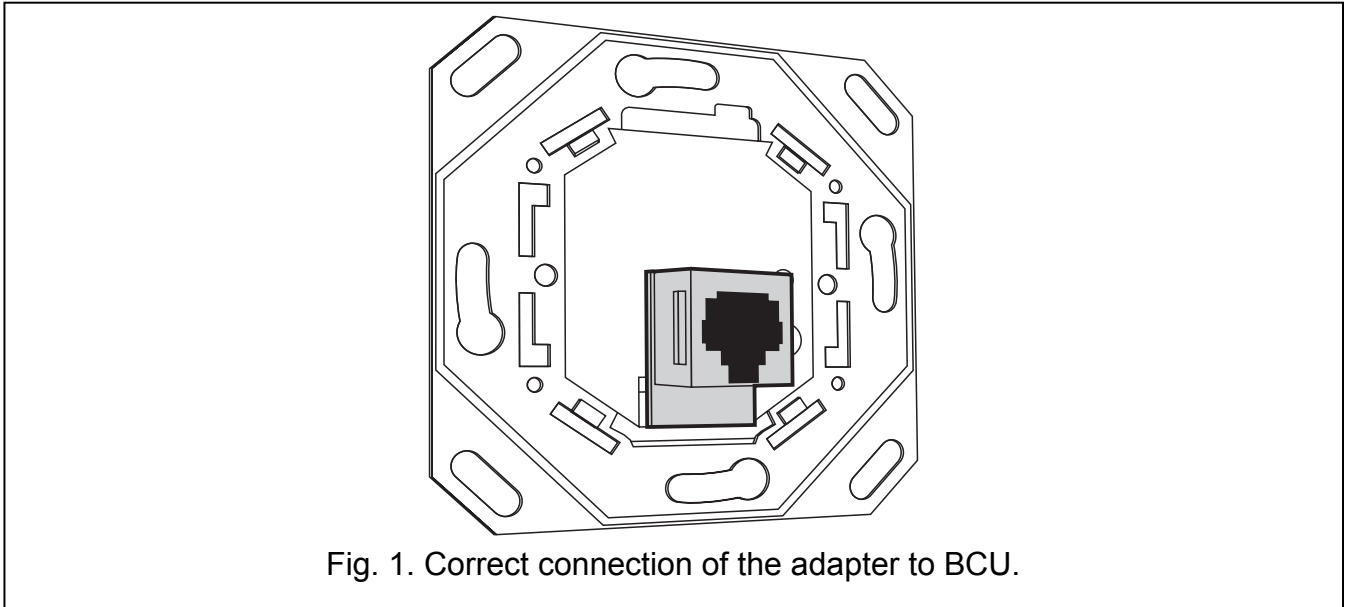

Fig. 1. Correct connection of the adapter to BCU.
7. Connect the adapter delivered with the INT-KNX module to the BCU (see: Fig. 1).